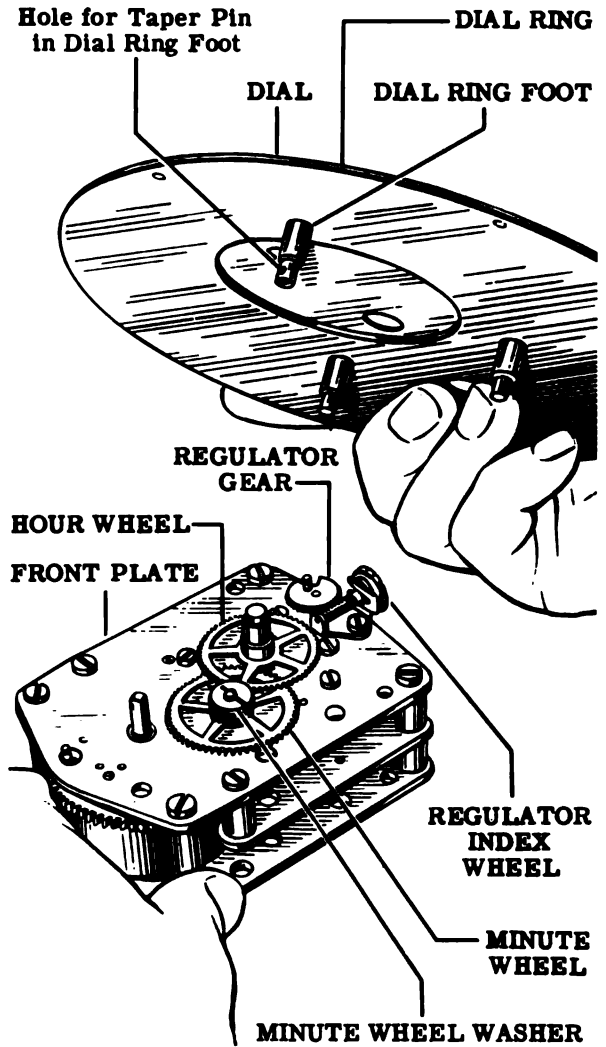

Figure 28
- Tilt the dial and movement so that you can see the three dial foot taper pins holding the dial ring feet to the front plate of the movement. See Fig. 28. With a pair of pliers, pull out the three taper pins. If the pins are very tight, they can be loosened by turning the pliers so that the pin is turned about its axis while being pulled out.
- Lift off the dial with the attached dial ring as shown in Fig. 28. For purposes of repair the dial may be separated from the dial ring by removing the three dial screws (see Fig. 136)—otherwise the two parts are not ordinarily disassembled.